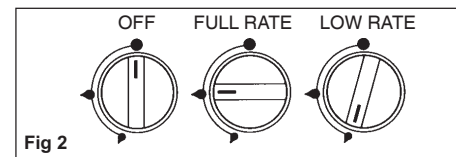

Fig 2
To light the grill, push in the control knob and turn to full rate (see Fig 2. Hold a lighted match or taper to the burner and push the control knob in and hold. It is necessary to hold the knob depressed after the burner has ignited for approximately 10-15 seconds, to allow the thermocouple probe to reach temperature, before releasing the knob. Should the flame go out when the knob is released, the procedure should be repeated holding the knob depressed for slightly longer.
2. To light: Open door, push in the control knob and turn to full rate (see Fig 2). Hold a lighted match or taper to the burner and push the control knob in and hold. The burner should ignite and the control knob should be held in for 10-15 seconds before release. If the burner goes out, repeat procedure holding control knob for slightly longer.